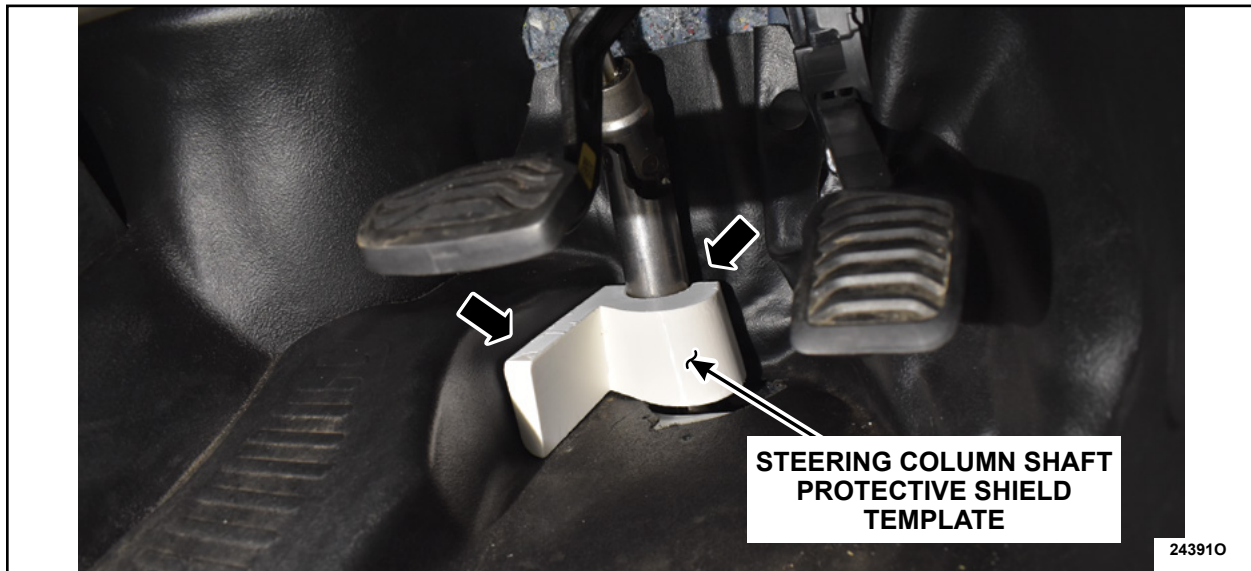

FIGURE 16
27. Install the provided steering column shaft protective shield template, (Part Number PK41-V11140-FA), in the location shown in Figure 16. The template will rest fully against the footrest and around the steering shaft.